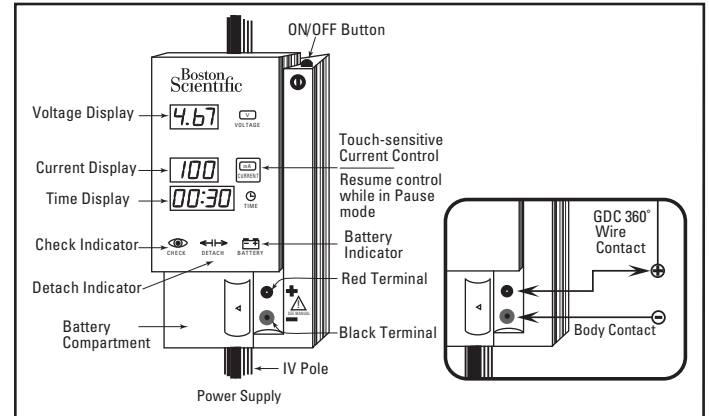

Figure 5. Detachable Coil Power Supply
- Press On/Off button located top right of the Power Supply (Figure 5). All displays will light and the system will perform a self check.